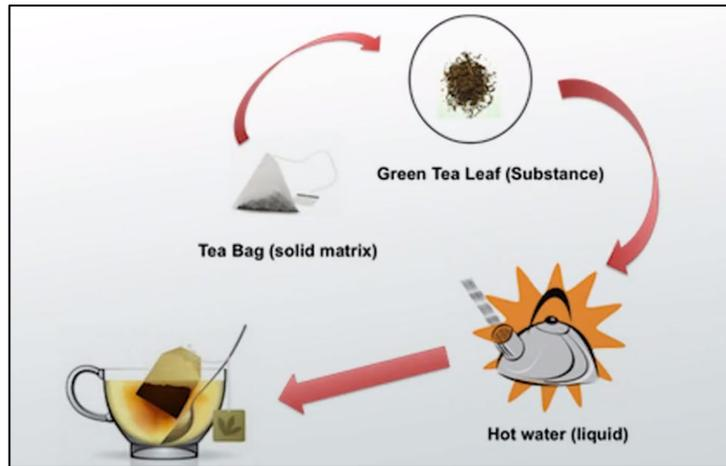

Figure 1: A simple example of leaching process
- Fig 1(a): The soluble part of the solid shrinks until it disappears as the reaction progresses.
- Fig 1(b): The soluble part of the solid may also react to produce an insoluble product whereby the reacting core shrinks while the particle does not change in size
- Fig 1(c): The soluble part of the solid reacts and a gelatinous and intermediate layer forms around the surface of the particle while the unreacted core shrinks.